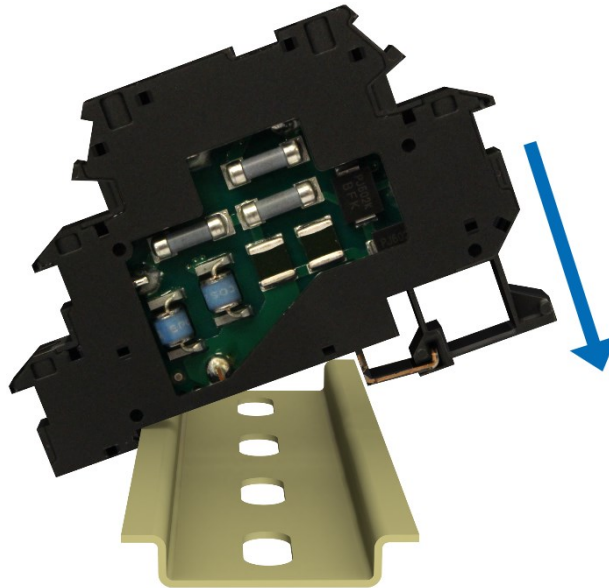
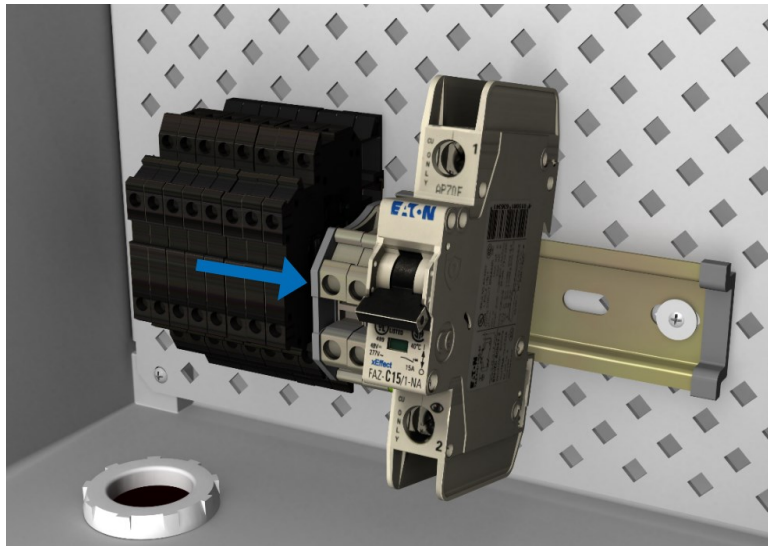

FIGURE 6-4. Mounting a DIN-rail component
FIGURE 6-5. DIN rail with components
A DIN rail is capable of holding a wide variety of wire connectors, fused terminal blocks, surge protectors, circuit breakers, and power supplies. End cap/separators are used to cover the open side of a terminal strip when it would be exposed. FIGURE 6-4 (p. 11) shows the open side of a terminal strip. The end cap/separators also act as spacers to separate different types of terminal blocks. Jumpers are used to electrically connect the terminals. A stopper needs to be on each end of the terminal strip assembly.
5. Starting at one end, mount the DIN-rail components on the rail. One end of each component is designed to catch one side of the rail. The other end of the component then snaps into place when the component is pressed against the rail (FIGURE 6-4 (p. 11)). Place DIN-rail stoppers and end cap/separators next to components when the profiles of two adjacent components differ, when a gap between two components is desired, or when the last component is mounted to the DIN rail (FIGURE 6-5 (p. 12)).